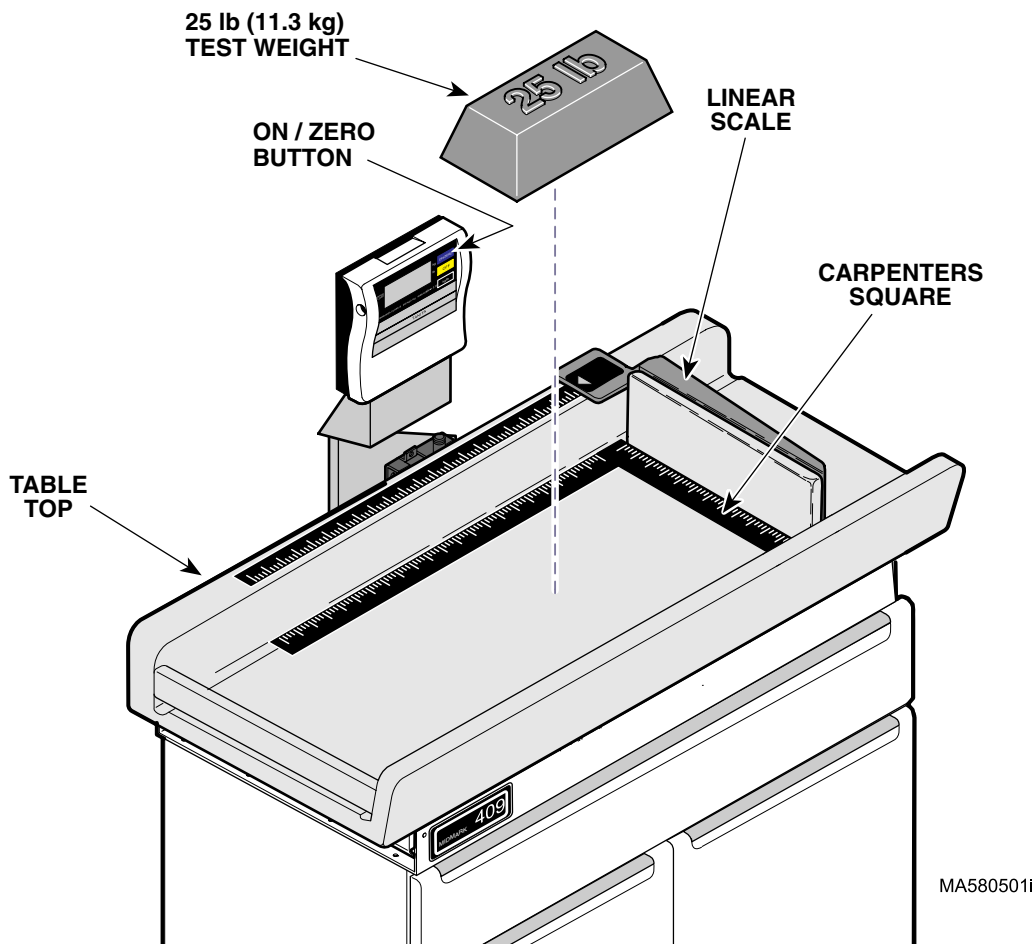

Figure 2-2. Operational Test (Models 409-006 & 409-007)
2.2 Operational Test (Models 409-006 and 409-007) (See Figure 2-2)